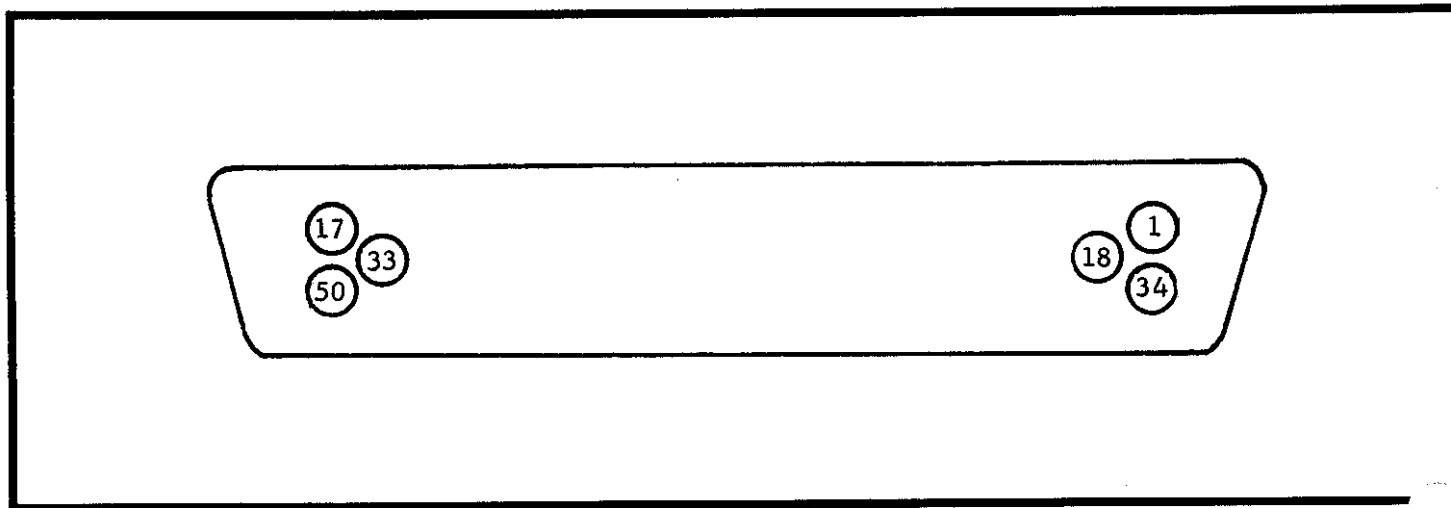

FIGURE 19. Identification of Pins on Digital Output Connector.
**1. Bench Mounting.** Position the Model 6162 on the left side of the Model 616 as shown in Figure 19 since the interconnecting cable has been designed to mate with the 616 in this configuration only. Remove the "side dress" panels (Item 11) on the sides which are adjacent. Loosen the socket head screws (Item 24) and slide the panels to the rear of the instruments. After both panels are removed install the "mounting clamp" (Item 23)
c. Connections. A single prewired cable plugs into the 616's chassis to provide all necessary communication between units. To install the cable, remove the 616's top cover, place rubber grommet within the rear panel slot, insert cable, and plug the three mini-connectors into their respective pc-board locations as shown in Figure 19. A separate 50-pin AMP type 205211-1 connector provides isolated outputs and control lines. A mating 50-pin connector is furnished with the 6162 (Keithley Part No. CS-271).